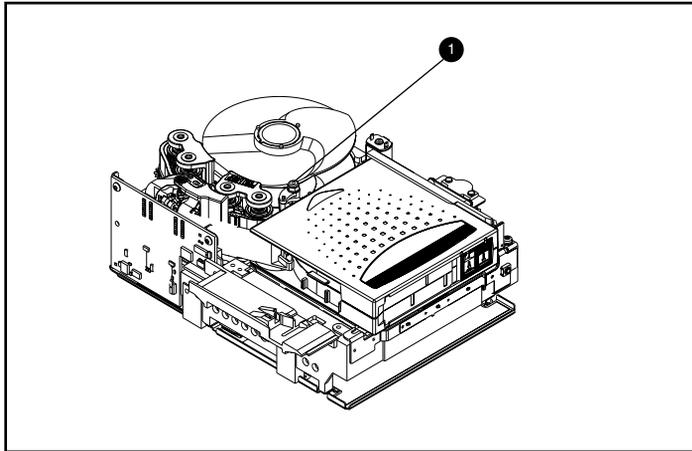

Figure 11: Disconnecting the leader pin from the cartridge buckle
To disconnect the leader pin from the cartridge buckle ❶, use a pair of tweezers. Then place the leader pin in the hooks of the buckler (see Figure 11 for the buckler location).